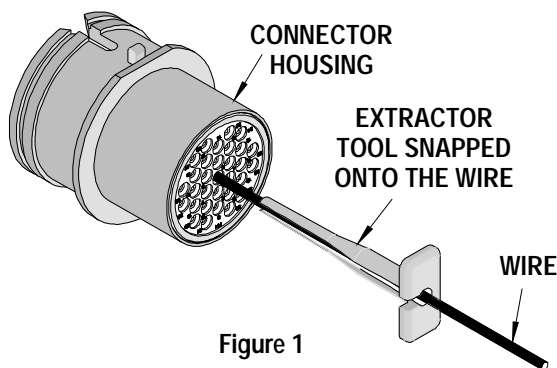

Figure 1
1. Snap the Extractor Tool over the wire of the contact to be removed. See Figure 1.